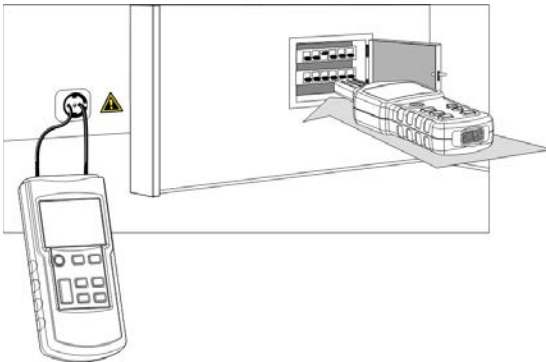

Fig.19
- Connect the transmitter as shown in figure 19.